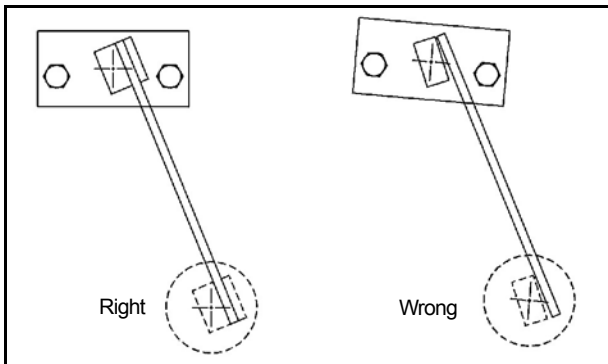

Figure 5-13 Arm Bracket Alignment
7. If bolt-on brackets are used on the bed, confirm there is proper arm bracket alignment (Figure 5-13).
5. Position the set-up arms on the shaker, using the original holes in the bed or the remaining arm bracket. Bolt the set-up arm onto the shaker, snugging the 3/8" (M10) bolts tight enough to hold the bed bracket and frame bracket parallel (Figure 5-13). Snug the 1/2" (M12) bed bracket bolts to take up any slack or misalignment.